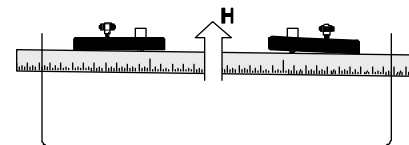
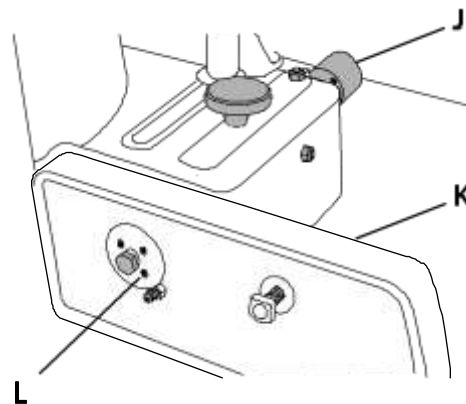
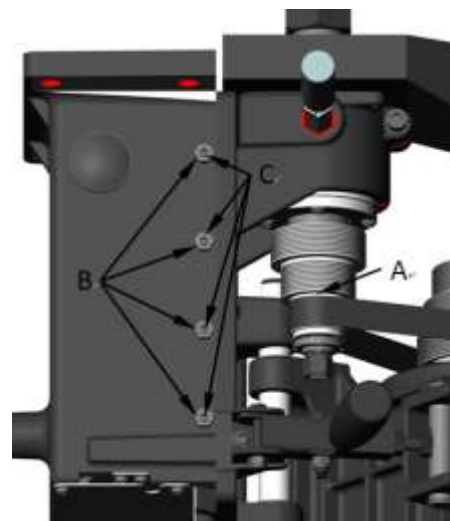

Fig. 5
Fig. 7
Fig. 10
Adjustment is required if the fences appear skewed (Fig. 5). Continue with Coplanar Adjustment (following steps).
6. Remove both fences and place the straightedge against the infeed and outfeed fence castings (Fig. 5).
8. Maintain steady pressure of the straightedge against the fence castings (H, Fig. 5). At the same time, attempt to bring both fences into alignment as shown in Fig. 10. This is accomplished by alternately making incremental adjustments to four setscrews (L, Fig. 7) on the front face of the casting (K, Fig. 7) with a 2mm hex wrench, followed by repositioning the casting with the micro adjust dial (J, Fig.7) as required.
Important : It is recommended that the adjustment setscrews (K, Fig. 7) be rotated in 1/16th increments or less at a time.
Referring to Fig.10 :
To adjust (refer to Figure 10):